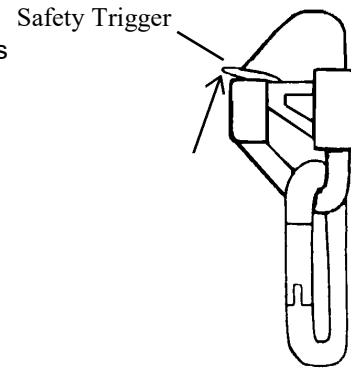

Figure 2
1. Push the safety trigger upward to open the cam gate to attach to the rope (See figure 2).